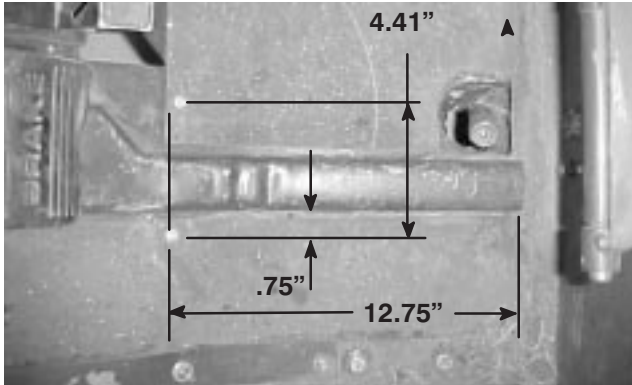

Figure 1
MOUNT HOSE CLAMP (Fig. 1 –2)
1. Using dimensions shown in figure 1, locate, mark and drill (2) .28 in. dia. holes in traction unit platform. Use caution when drilling as there are hoses and cables under platform.